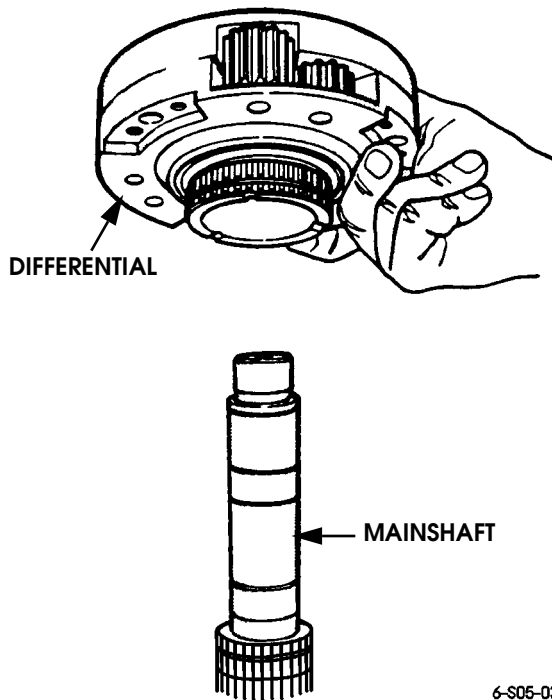

Figure 5-105: Differential Removal
- 26. Remove differential from mainshaft (Figure 5-105).